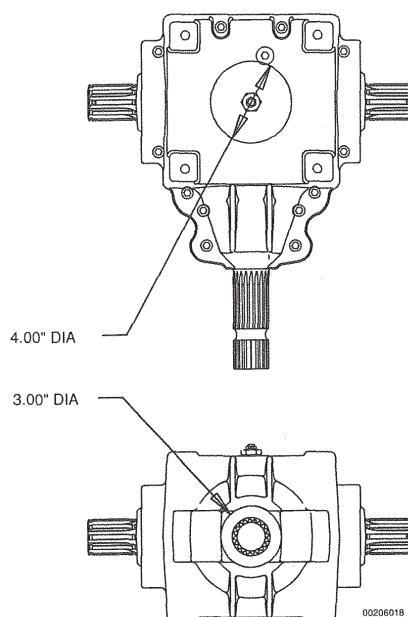

Figure 33. Acceptable Oil Leakage
1. **Oil covers less than a 3-inch diameter area around the shaft seal area (see Figure 33).**
2. **Oil covers 4 inches around the vent or drain plugs (see Figure 33).**